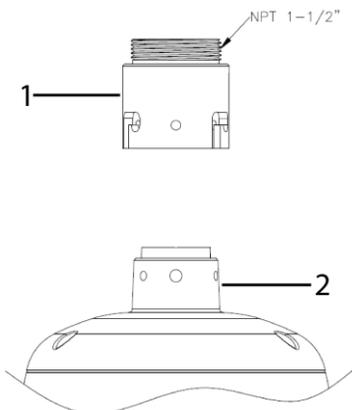

Figure 8
- A. Place the mount adaptor (1) (Figure 8) on to the NPT pendant cap (2) (Figure 8) and align the holes on the mount adaptor with the holes on the NPT pendant cap.